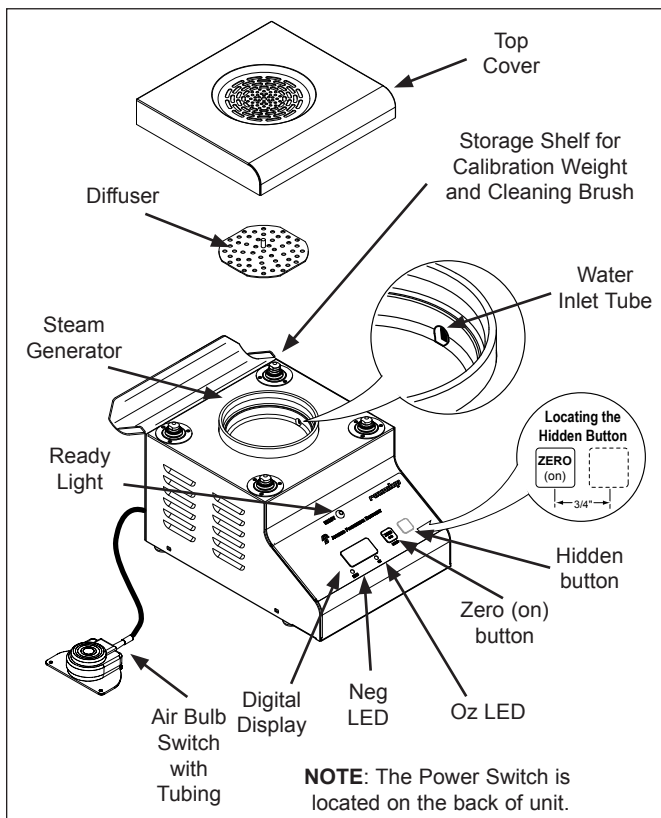

Figure 1. STS-200 Steamer/Scale
The STS-200 Steamer/Scale is used to heat and portion sliced meats. The Air Bulb Switch initiates a shot of steam while the digital display shows the weight of the sliced meat (Figure 1).
3. Place the sliced meat onto the center of the Steamer/Scale surface. At the same time, press the Air Switch (Figure 1). The Steamer/Scale will initiate a shot of steam.
4. Directly to the right of the **Zero (on)** button is the **Hidden** button used to adjust the scale (Figure 1). Simultaneously press and hold both the **Zero** button and the **Hidden** button and then turn the unit on.